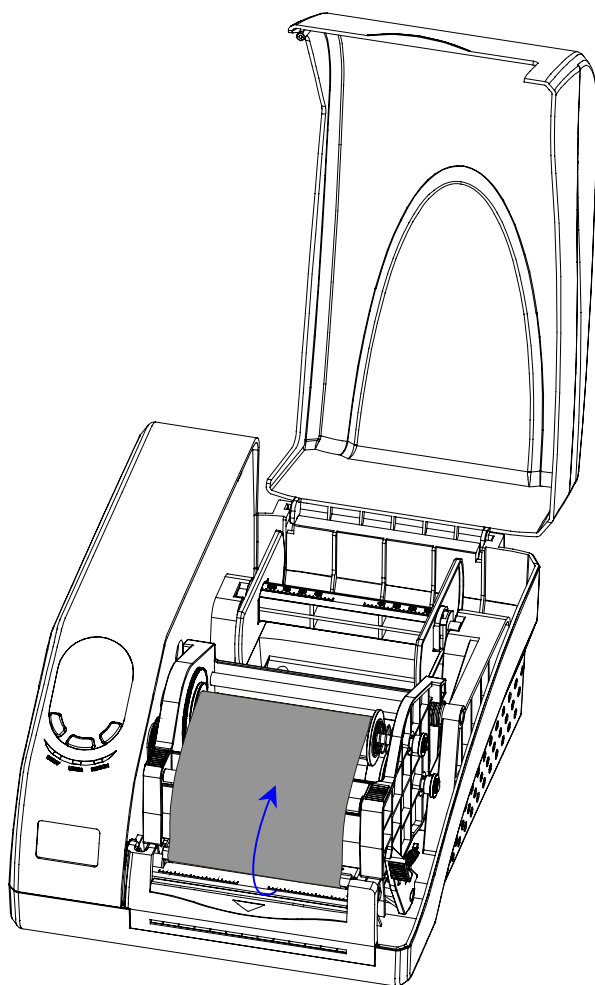

Figure 5-6
8. Load the core into the Ribbon rewinder (Figure5-6).